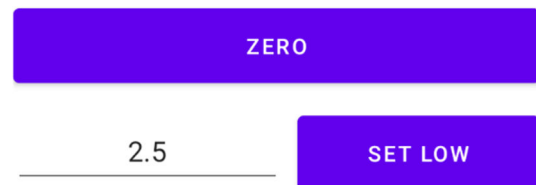

Figure 84 – Zero and level set.
6. Enter the gas mixture concentration according to the mixture concentration in the calibration bench (Figure 84), tap the  button.